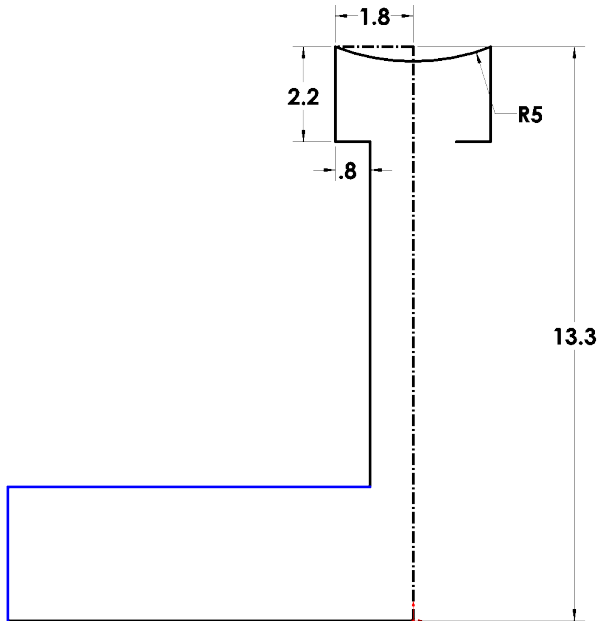
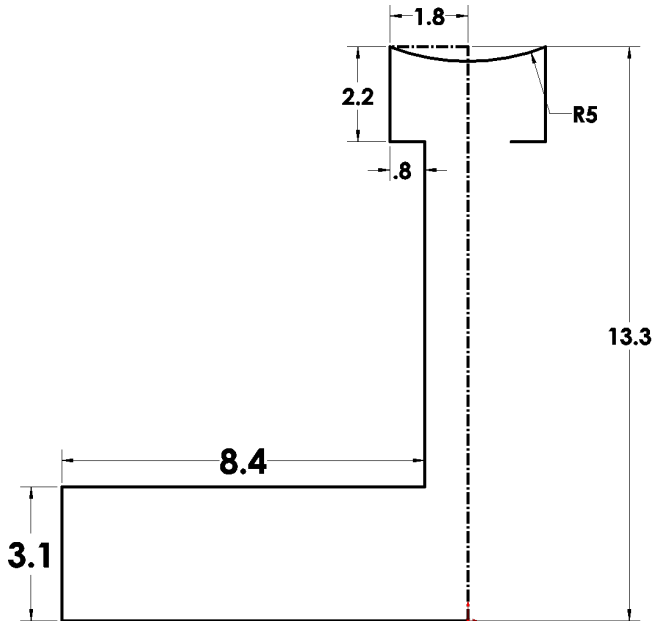

Fig. 9
Fig. 10
Step 1. Click **Line**  (L) on the Sketch toolbar.
Step 2. Sketch the **three lines**, **Fig. 9**.
Step 3. Click **Smart Dimension**  (S) on the Sketch toolbar.
Step 4. Add dimensions, **Fig. 10**.